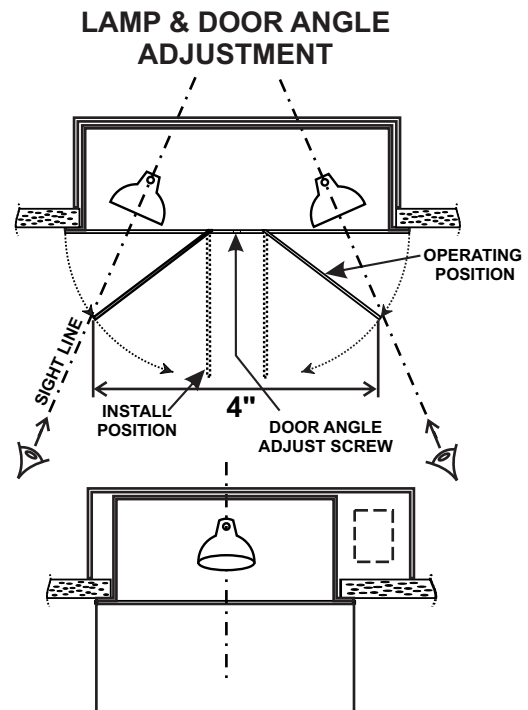

Fig. 4
5. See Figs 4 and 6. Adjust lamp and door angles to place lamp beams in optimum locations. To adjust lamps, twist lamp bracket on friction swivels to desired position. To adjust door angle, first open doors manually by pulling on edges gently to open magnet lock. Insert Allen key supplied into access hole on face to locate stop screw, and twist COUNTER CLOCKWISE to reduce (close) door angle. Measure distance between door edges for optimum angles shown in Figs 4 and 6.
4. See Figs. 4 & 6 for lamp and door angle positions.